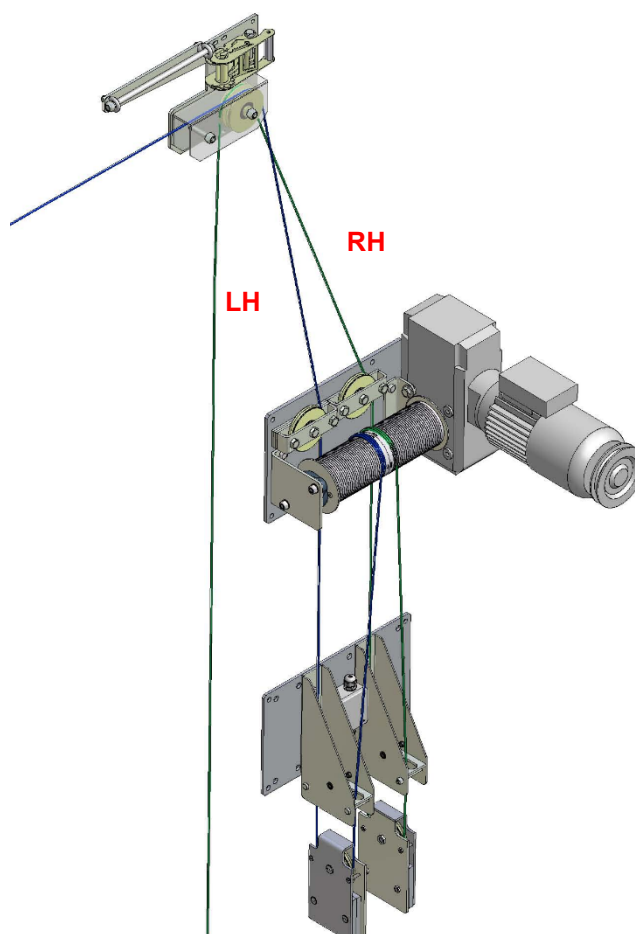

Figure 8
Thread Cables through hole in Intermediate Trolleys (Figure 7.2), around the pair of Top Plates (Figures 7.3 and 7.4). Pay particular attention to the Cable routing on the right-hand Top Plate (Figure 7.4). Referring to Figure 8, continue Cables around 100mm pulleys on the Electric Drive down through Counterweight Plate, around Counterweights (D1) and back up to the Drive. Ensure the Left and Right Cables are positioned as indicated.
- The Cables feed onto the front of the drum (Figures 8 and 12)